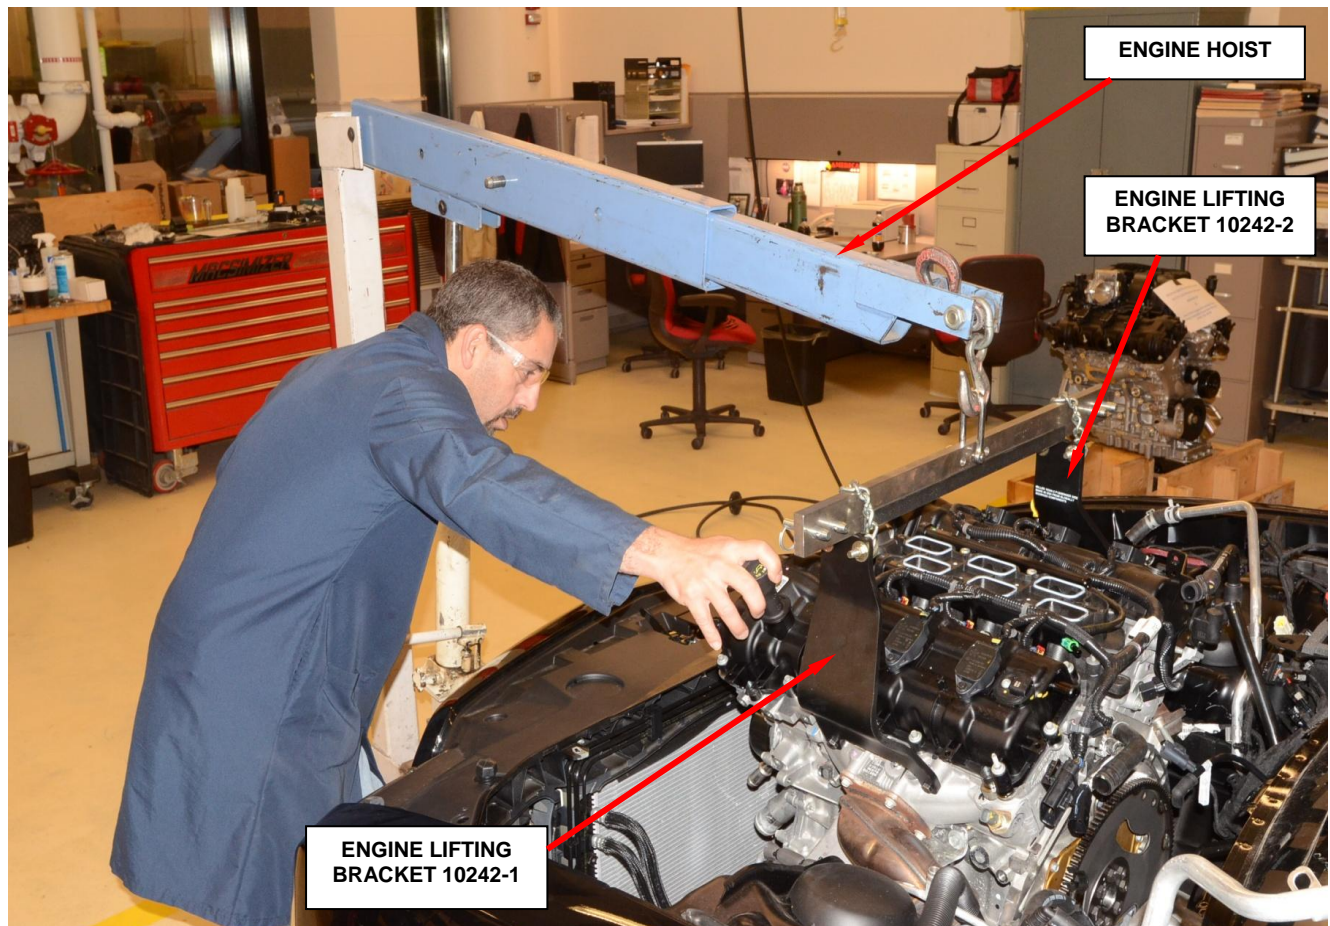

Figure 27 – Engine Removal
57. Using an engine hoist, carefully remove the engine from the engine compartment (Figure 27).